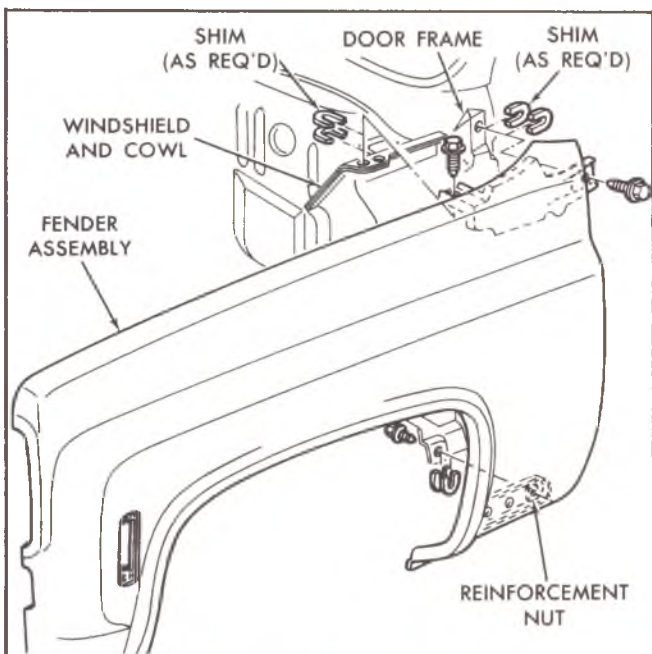

Fig. 10—Front Fender Assembly—CK Series
3. Install combination bolt and flat washer assembly into each fender reinforcement while inserting shims required between fender reinforcement and body (See Figure 10).
### FRONT FENDER (FIG. 10)